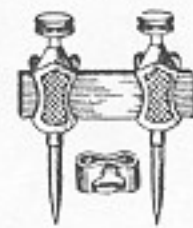

Fig. 50. Trammel points.
7. A pair of trammel points consists of two steel points which can be clamped to a stick of wood. One of the points has an attachment for a pencil (Fig. 50). Trammel points are used for drawing circles or arcs having larger radii. A pair of trammel points may be made from a stick of wood and two nails. The radius required is measured and the nails are driven through the stick at these points. One nail point is placed in the center, and the arc or circle is drawn with the other. Trammel points are very accurate and always should be used in preference to a nail, a string, and a pencil.